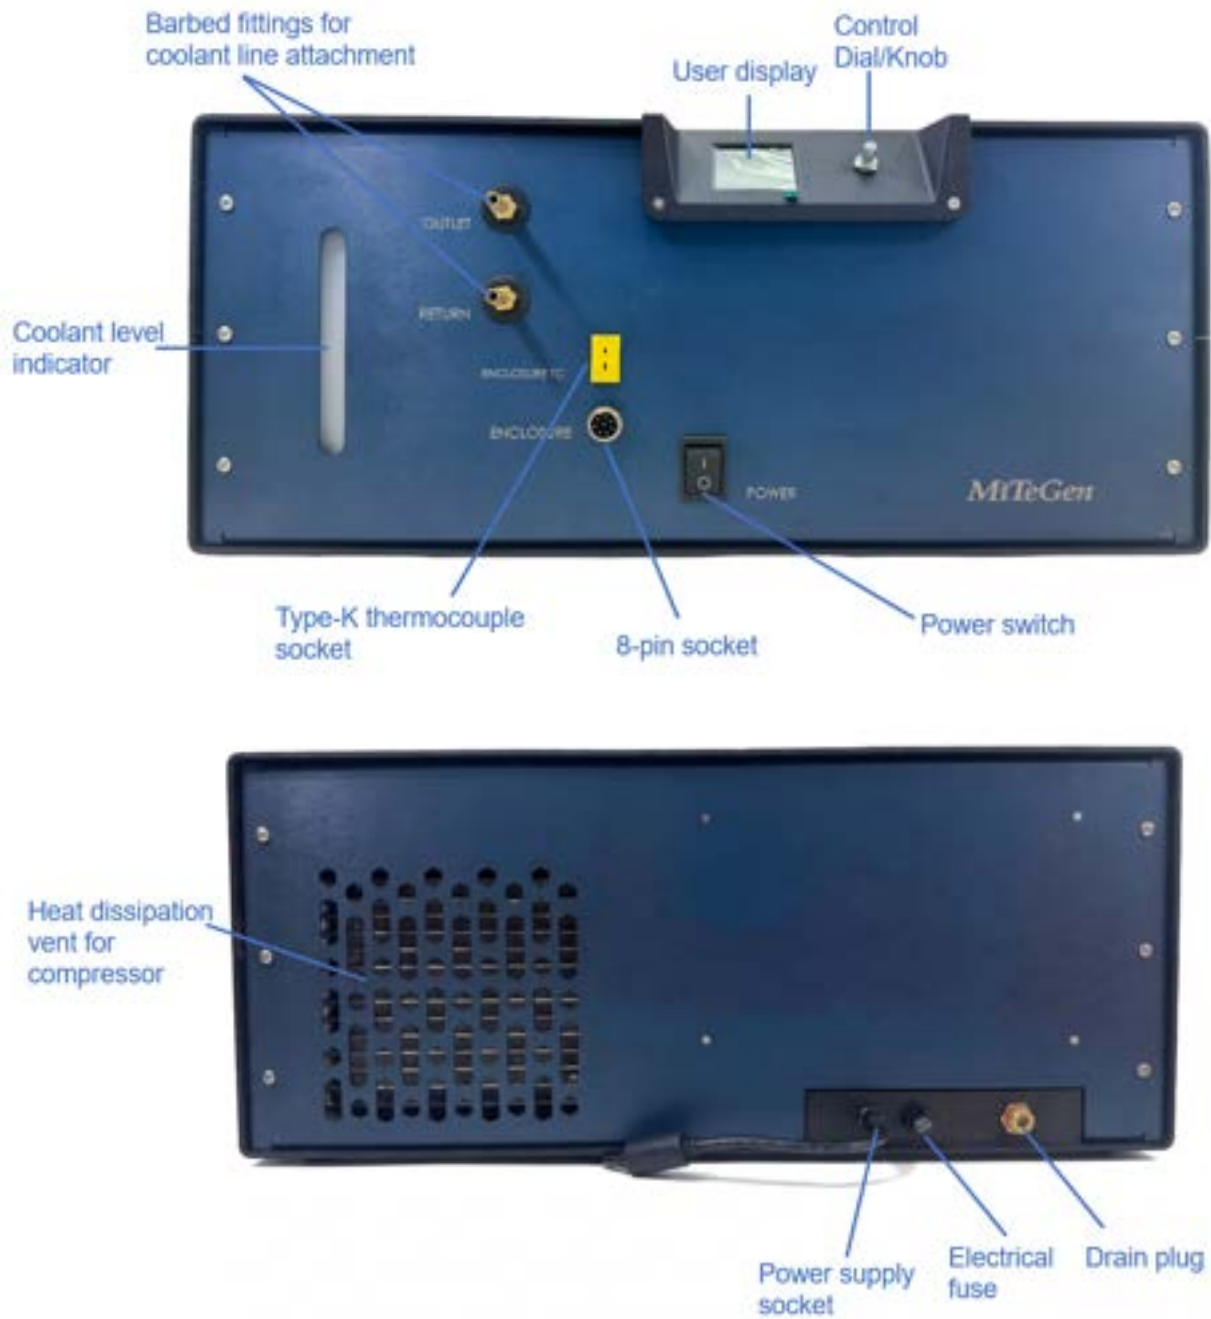

Figure 2: Overview schematics for front panel (top) and back panel (bottom) of chiller unit for GraVetri 4C Module
STEP 1. With enclosure doors open, slide the return spring onto the blotting rod. Then, without cap, slide the blotting rod through the appropriate port on the enclosure side door (please refer to **Figure 2**) with the rod's female end sticking into the enclosure. Open the door and slide the blotting round supports, blotting round, and cap onto the end of the blotting rod (see **Figure 9** below). Close the door.